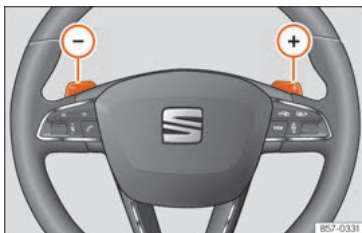

Fig. 260 Steering wheel: automatic gearbox levers
- Press the gearshift paddle  to select a higher gear »» **Fig. 260**.